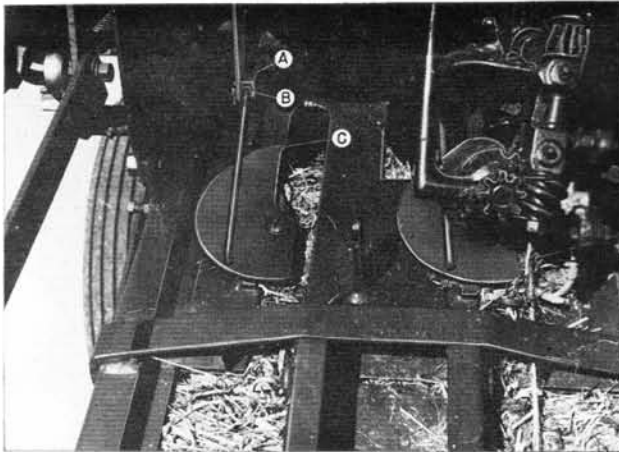

FIGURE 34
2. Rotate the knotters until they are in their home position. Adjust nuts A and B, Figure 34, so that the tip of the twine finger, point C, is even with the edge of the needle slot in the top of the bale chamber.